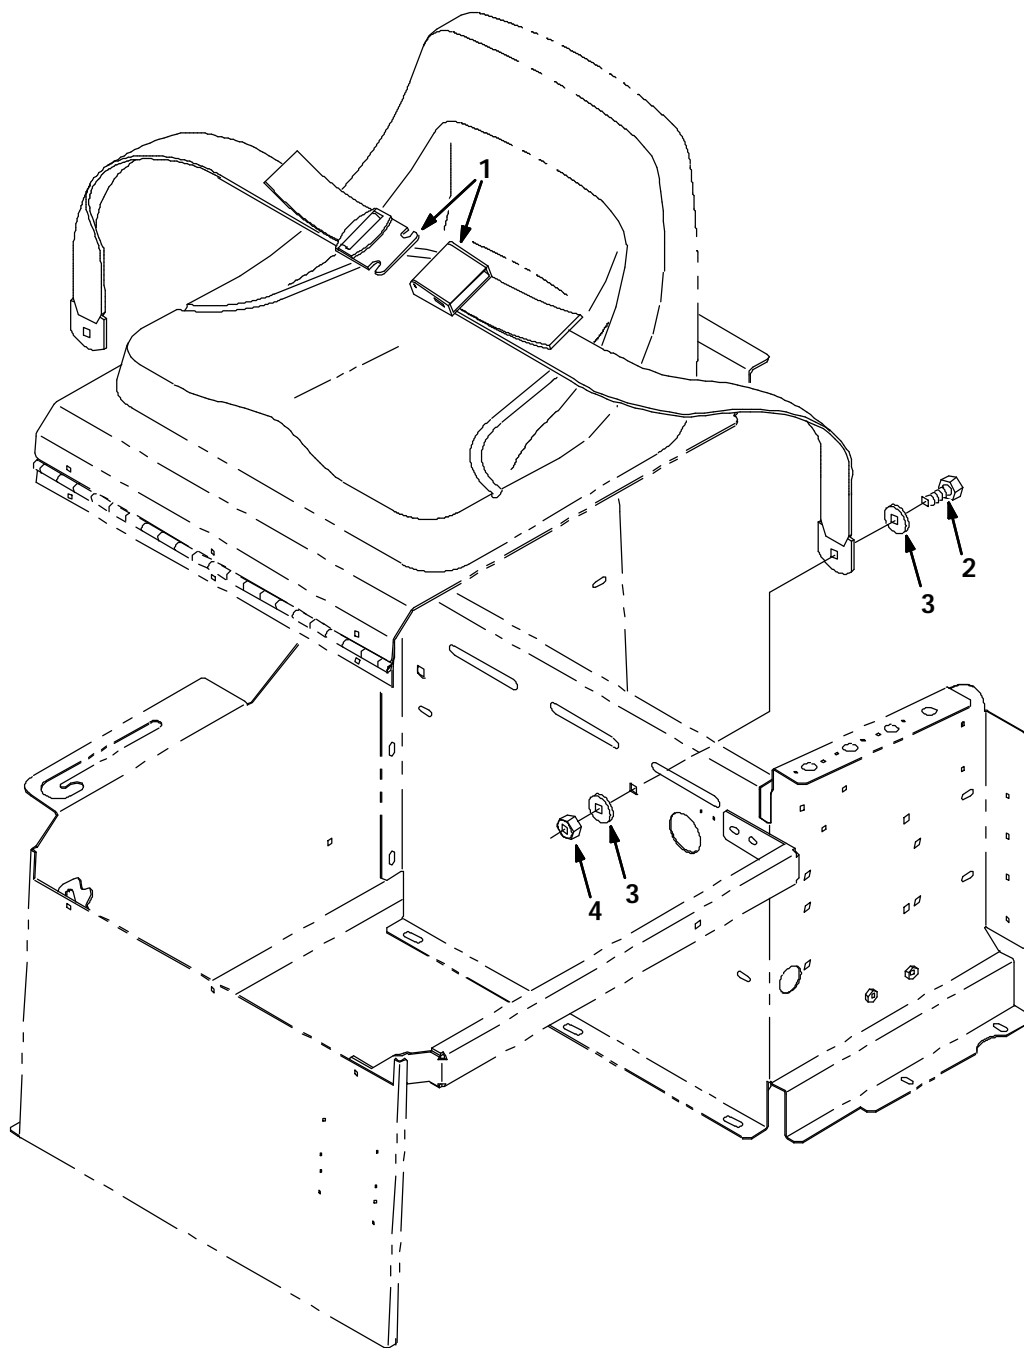

FIG. 1 - SEAT BELT KIT INSTALLATION
(Refer to FIG. 1)
2. Mount seat belt (1) to the rear wall of battery/engine compartment with screws (2), washers (3) and nuts (4). (Refer to FIG. 1)